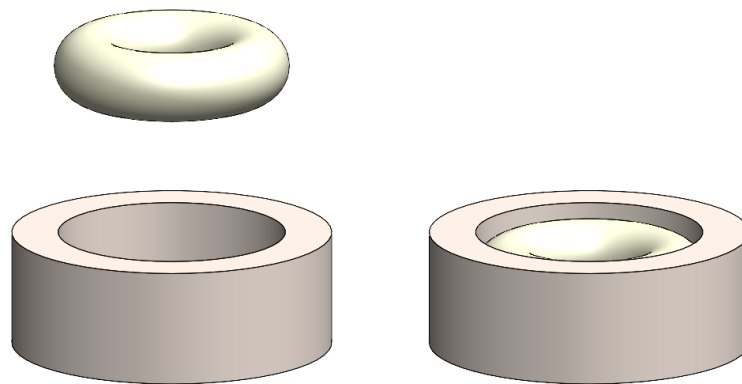

Figure 4
- Apply a drop of approved lubricant to the 005 O-ring (Figure #1, #2), fit into the cup of the double seal spacer (Figure #1, #3) as shown in Figure 4, then place into the magazine with O-ring facing up.